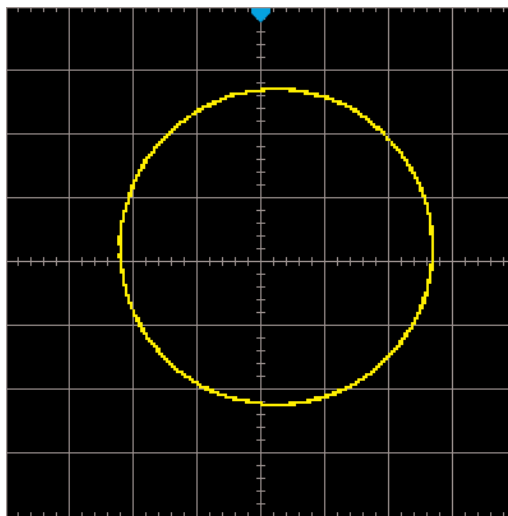

Figure 6.3 Delayed Sweep Mode
- 4 Observing the measurement results in the above figure and based on the phase difference measurement principle diagram (Figure 6.3), it can be concluded that $A/B (C/D)=1$, which means the phase difference angle between the input signals of the two channels is $= \arcsin 1 = 90^\circ$.